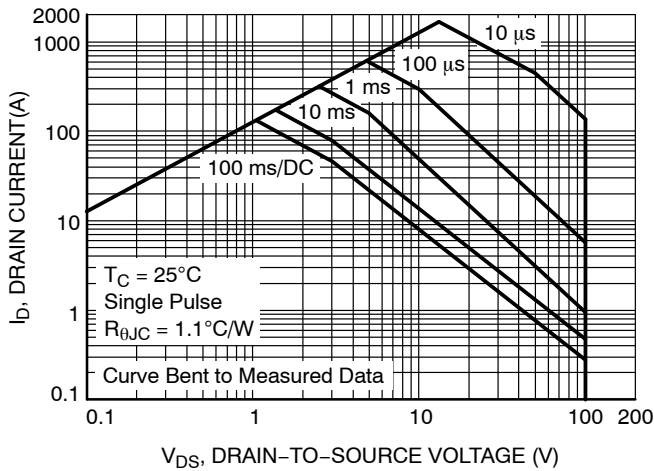

Figure 11. Forward Bias Safe Operating Area
9. Pulsed I_D please refer to Figure 11 SOA graph for more details.